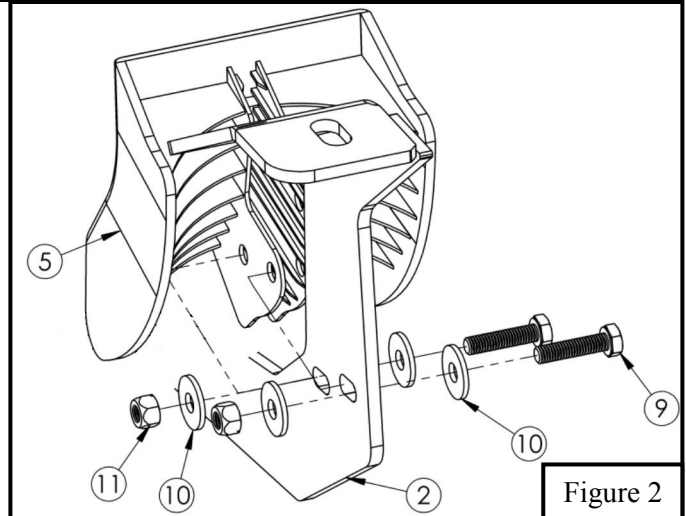

Figure 2
4. Locate (1) Plastic Bracket Cover (Item 5) and loosely secure it to the (6) brackets using the provided hardware: (2) M6 hex head cap screw, (4) M6 flat washer, and (2) M6 nylon lock nut (Items 9-11) . Repeat for every bracket. **See Figure 2.**